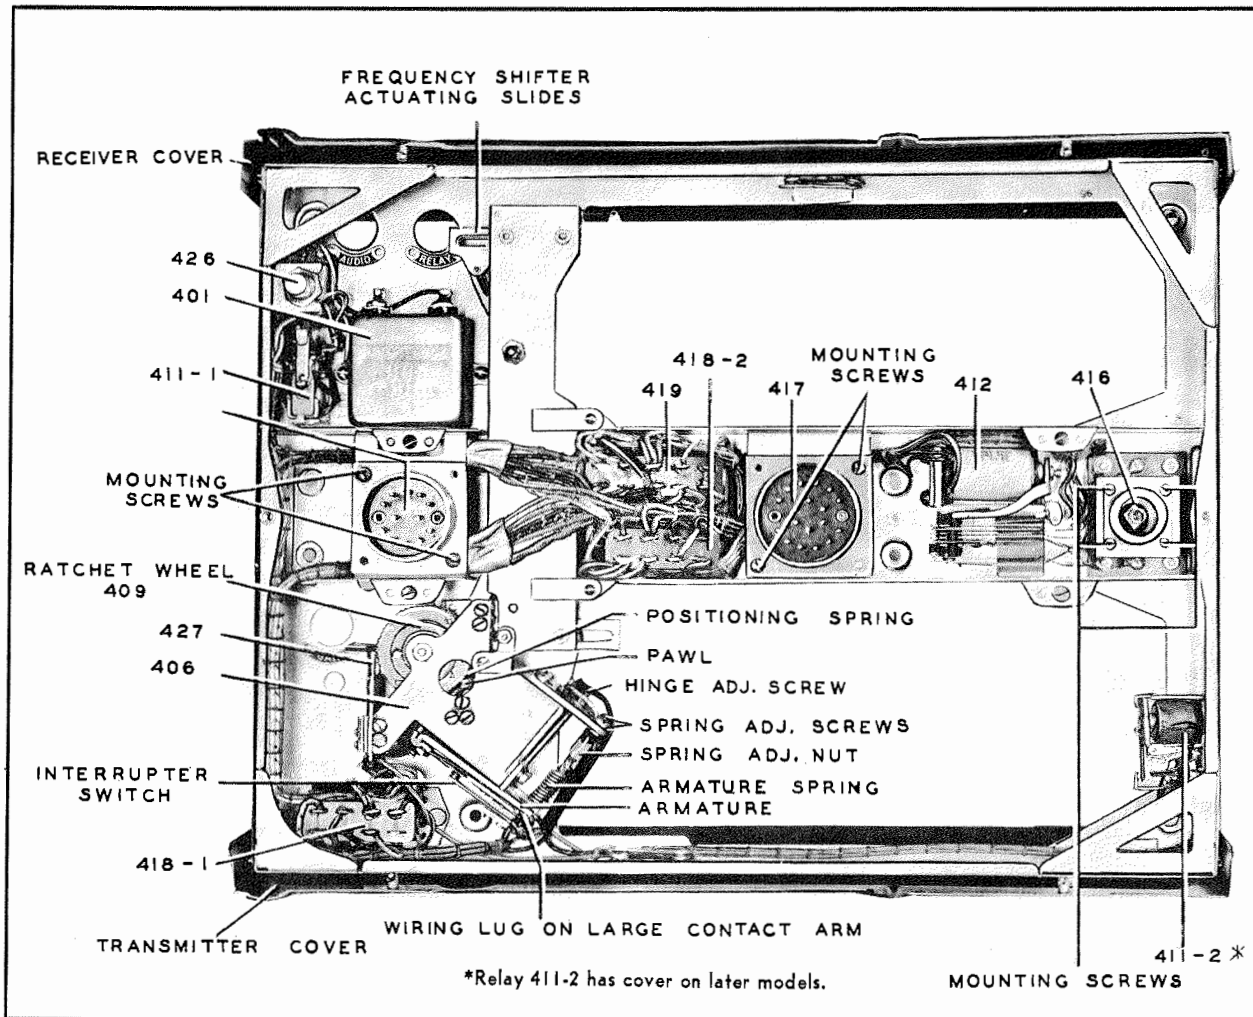

Figure 4-20. Rack FT-244-A—Center Cover Removed—Top View
(See figures 4-20 and 4-21.)
b. All input and output connections to the transmitter and receiver are made through the rack. (See fig. 4-20.) The filtered d-c output is applied to the transmitter and receiver through socket 420. The master control box is connected to socket 417. The transmitter r-f output of receiver signal input is made through socket 416. Receiver plug 231 engages rack socket 419. Transmitter plugs 123-1 and 123-2, respectively, engage rack sockets 418-1 and 418-2. By means of these connections, the rack functions as a junction box which interconnects the transmitter and receiver and the other units of the equipment.